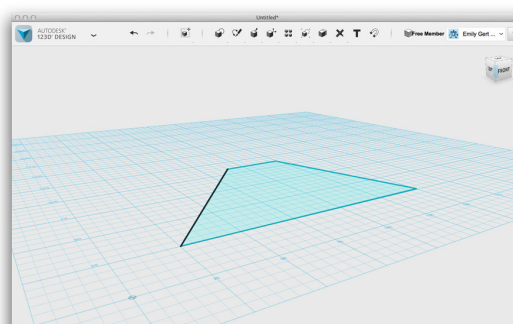
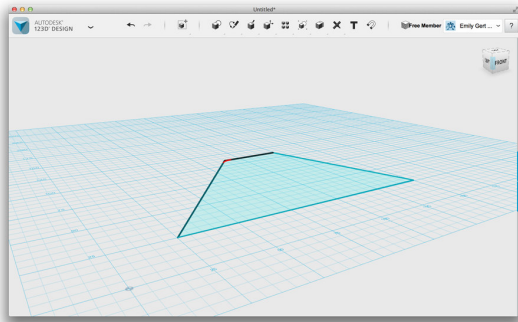

Figure 4-74 Pick the first of two lines to round with the Fillet tool
Figure 4-75 Then pick the next line
2. Select the sketch you want to edit, and then select one line (Figure 4-74) followed by another that you want to round (Figure 4-75). Or, select a corner that you wish to round.